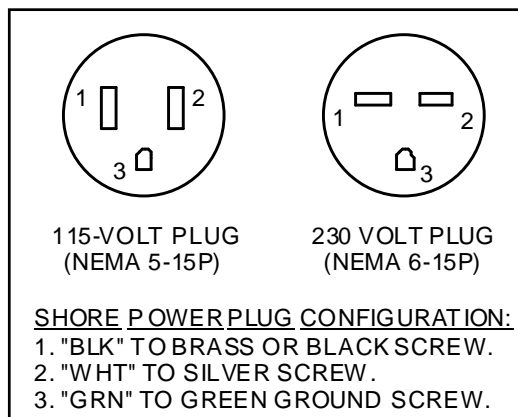

Figure 2. Wire pin out.
3. Strip insulation from wiring and connect wires to the plug contacts (Figure 2).